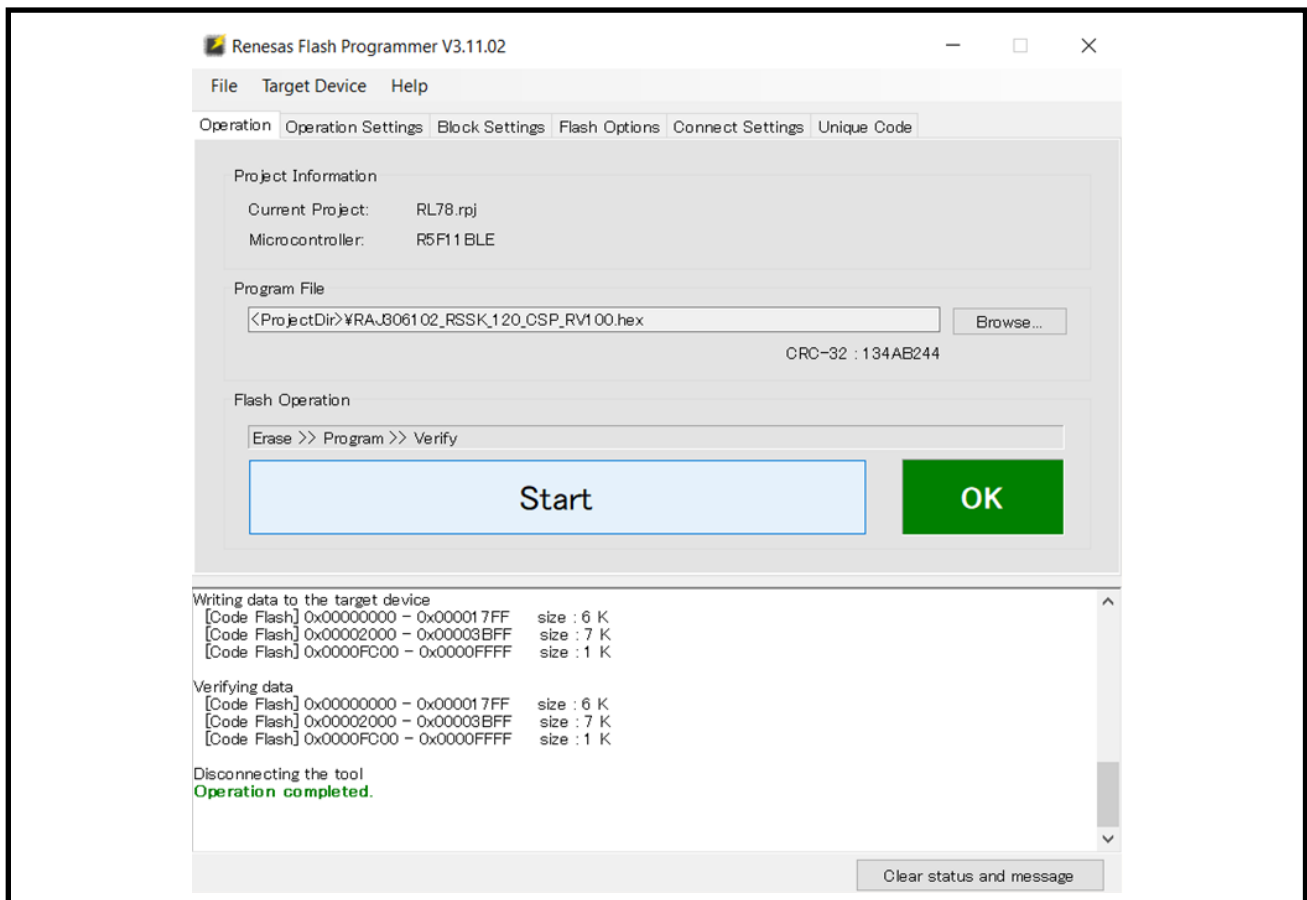

Figure 5-6 Firmware Write (RAJ306102)
3. Select HEX file, then click "Start" in reference to **Figure 5-6** to write firmware.